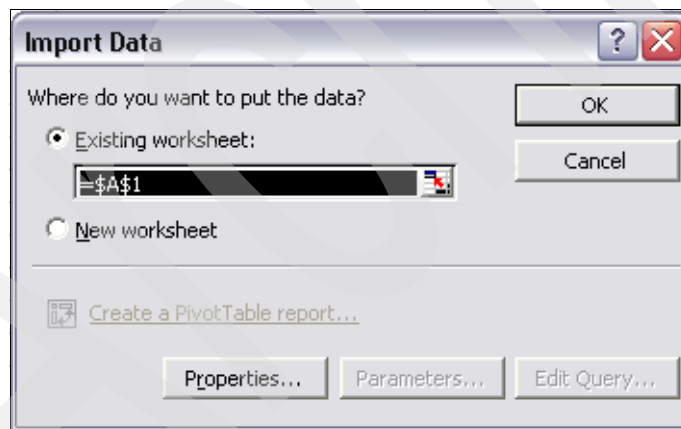

Figure 6-62 Press OK to complete the task
7. See Figure 6-62. Click **OK** to complete the task.